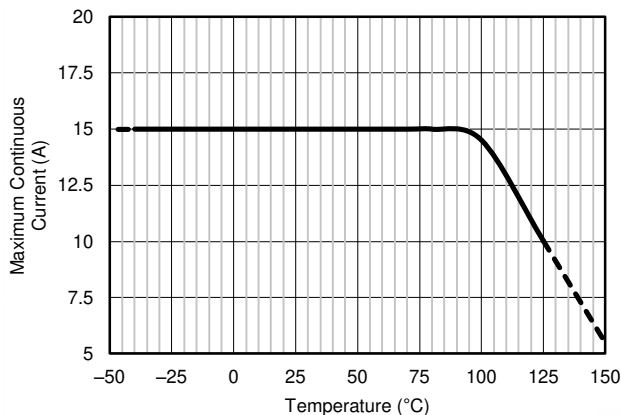

Figure 7-1. Maximum Current vs Temperature
- (3) The supply voltage range maximum is 36 V, but the reference voltage cannot be higher than 18 V.
- (4) See Figure 7-1 and the *Layout* section for additional information on the current derating and layout recommendations to improve the current handling capability of the device at higher temperatures.
- (5) See the *Section 7.3.1* section for additional information regarding the integrated current-sensing resistor.
- (6) System gain error includes amplifier gain error and the integrated sense resistor tolerance. System gain error does not include the stress related characteristics of the integrated sense resistor. These characteristics are described in the *Shunt Resistor* section of the *Electrical Characteristics* table.
- (7) The internal shunt resistor is intended to be used with the internal amplifier and is not intended to be used as a stand-alone resistor. See the *Integrated Shunt Resistor* section for more information.
External factors (such as ambient temperature, external air flow, and PCB layout) can contribute to how effectively the heat developed as a result of the current flowing through the total package resistance can be removed from within the device. Under the conditions of no air flow, a maximum ambient temperature of 85°C, and 1-oz. copper input power planes, the INA250 can accommodate continuous current levels up to 15 A. As shown in Figure 7-1, the current handling capability is derated at temperatures above the 85°C level with safe operation up to 10 A at a 125°C ambient temperature. With air flow and larger 2-oz. copper input power planes, the INA250 can safely accommodate continuous current levels up to 15 A over the entire –40°C to 125°C temperature range.